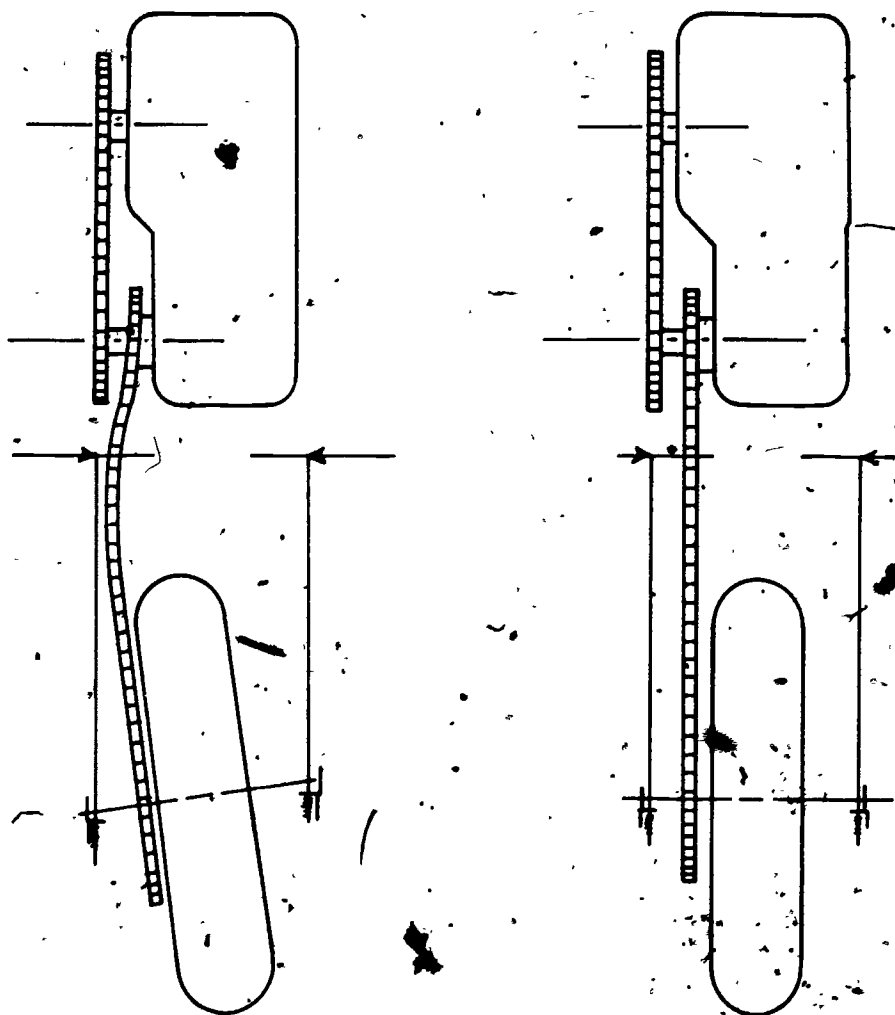

FIGURE 4
- E. Recheck chain adjustment and alignment (Figure 4)